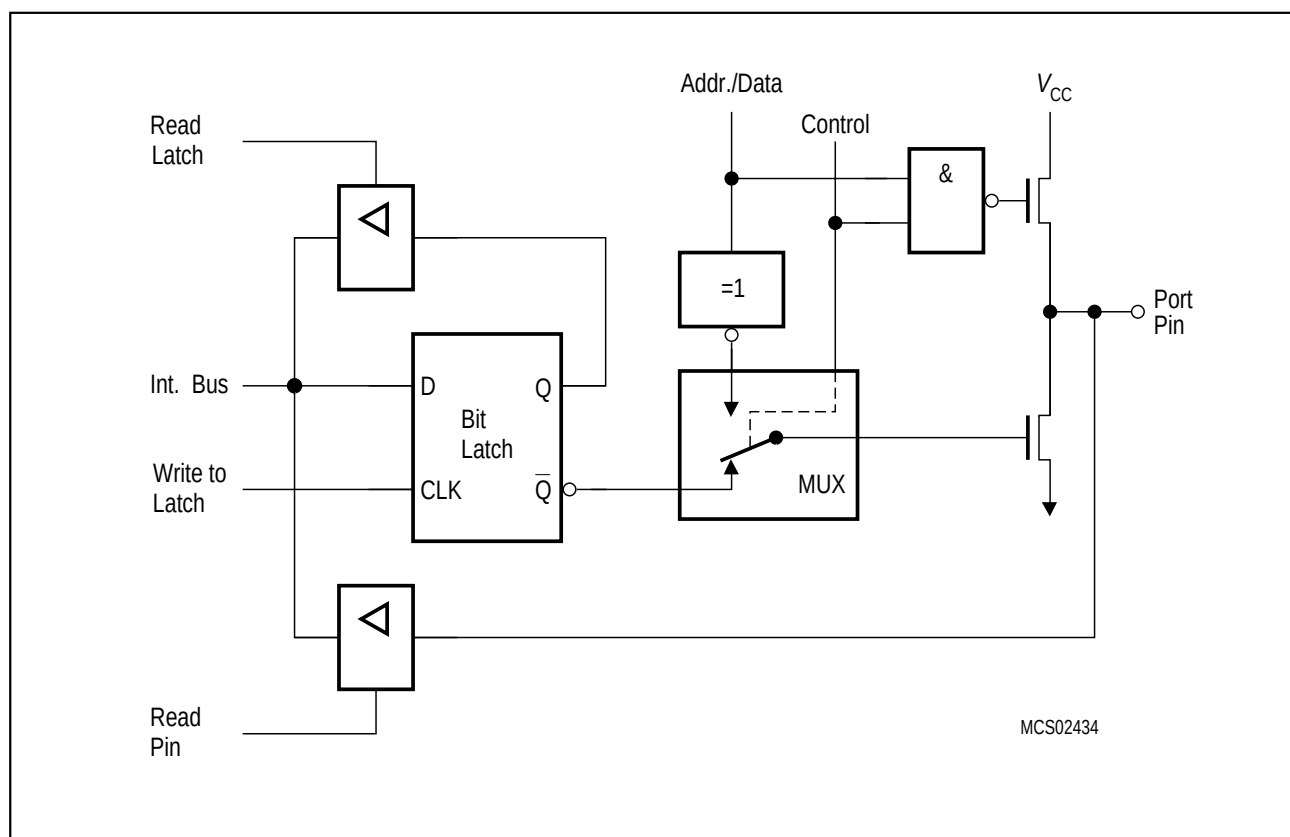
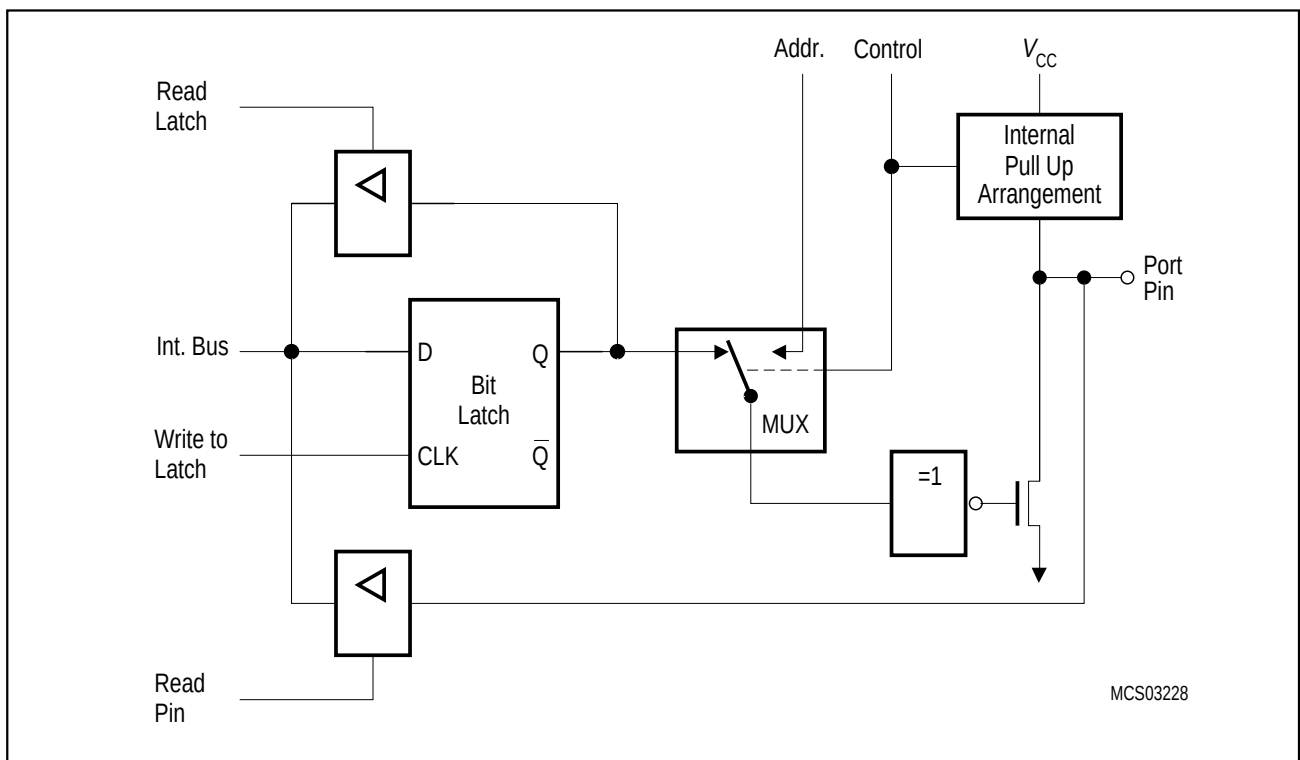
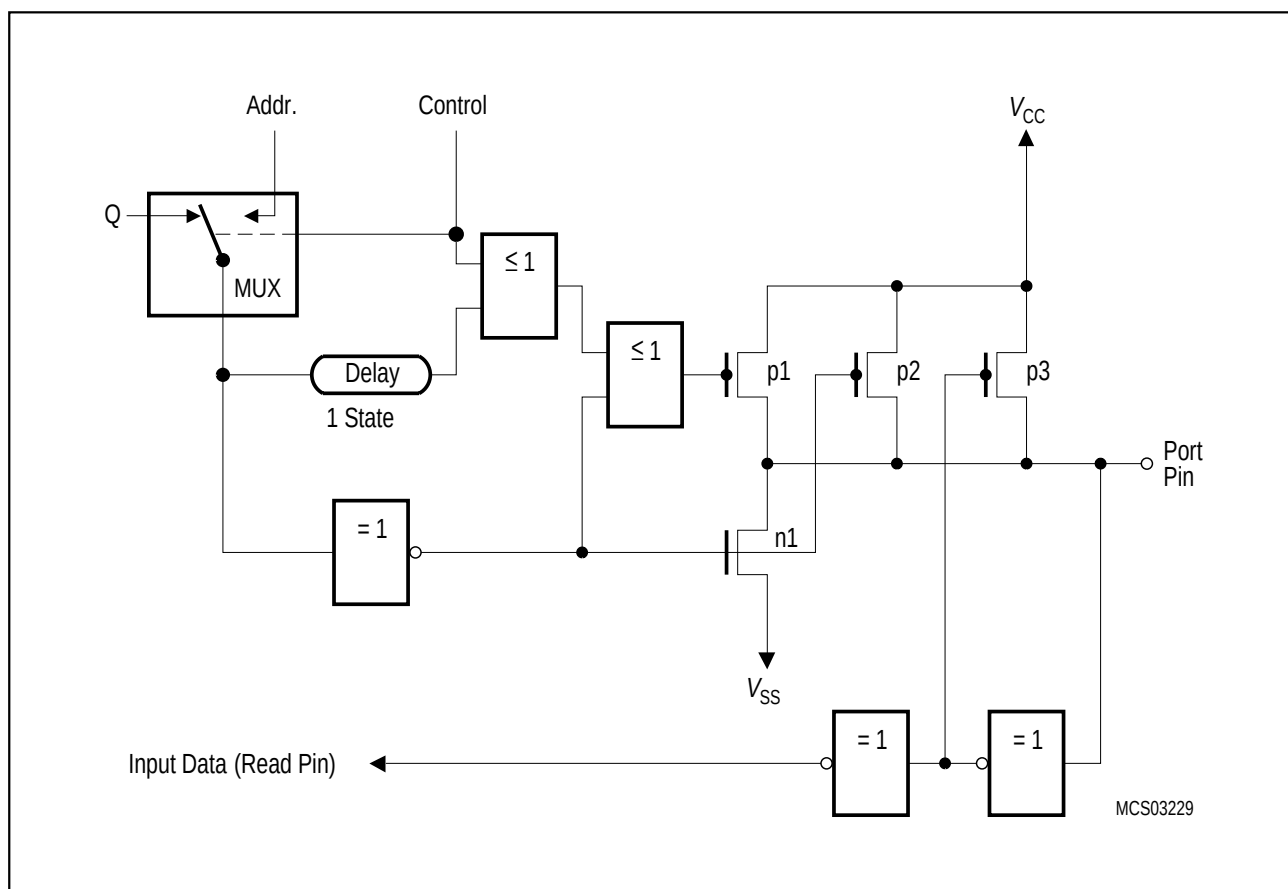

Figure 6-3
Figure 6-5
Figure 6-6 Port 2 Pull-up Arrangement
Port 0, in contrast to ports 1 to 4, is considered as "true" bidirectional, because the port 0 pins float when configured as inputs. Thus, this port differs in not having internal pullups. The pullup FET in the P0 output driver (see **figure 6-3**) is used only when the port is emitting 1's during the external memory accesses. Otherwise, the pullup is always off. Consequently, P0 lines that are used as output port lines are open drain lines. Writing a "1" to the port latch leaves both output FETs off and the pin floats. In that condition it can be used as high-impedance input. If port 0 is configured as general I/O port and has to emit logic high-level (1), external pullups are required.
As shown in **figure 6-3** and below in **figure 6-5**, the output drivers of ports 0 and 2 can be switched to an internal address or address/data bus for use in external memory accesses. In this application they cannot be used as general purpose I/O, even if not all address lines are used externally. The switching is done by an internal control signal dependent on the input level at the $\overline{EA}$ pin and/or the contents of the program counter. If the ports are configured as an address/data bus, the port latches are disconnected from the driver circuit. During this time, the P0/P2 SFR remains unchanged. Being an address/data bus, port 0 uses a pullup FET as shown in **figure 6-3**. When a 16-bit address is used, port 2 uses the additional strong pullups p1 (**figure 6-6**) to emit 1's for the entire external memory cycle instead of the weak ones (p2 and p3) used during normal port activity.